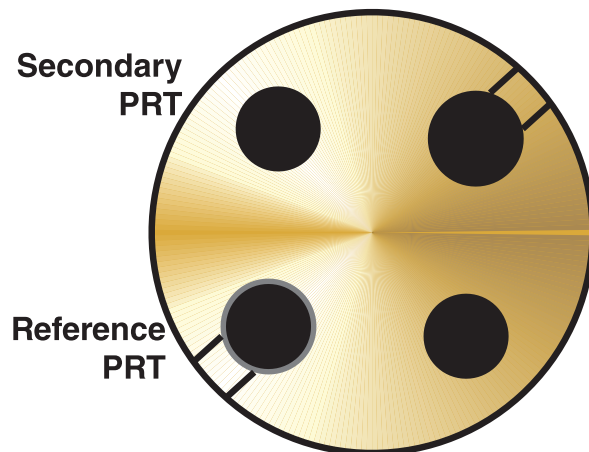

Figure 20 PRT and insert orientation during heat source calibration.
The calibration insert (Hart Model 914x-INSG) must be oriented as indicated in Figure 20 on this page. The Axial Gradient Test requires the use of one reference standard, ¼-inch PRT, and a secondary PRT with a sensor length 5 mm or less. The reference standard is inserted the full-depth of the well in the position indicated in Figure 20. The secondary PRT is inserted the full-depth of the well in the position indicated in Figure 20.
2. Insert the 5 mm PRT the full –depth (0 mm) as indicated in Figure 20.
The Stability Test requires the use of one reference standard – primary reference standard – which is inserted into a full-depth hole in the calibration insert. The reference standard should be oriented with the calibration insert as indicated in Figure 20 on previous page.